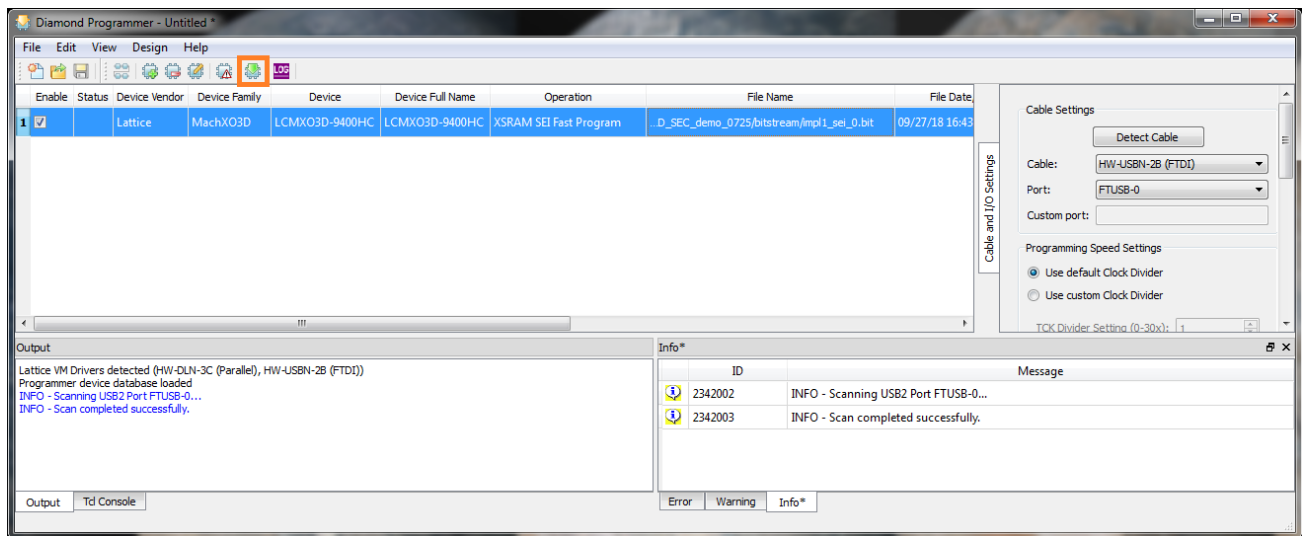

Figure 6.9. Start XSRAM SEI Fast Program Operation
- Click the **Program** button on the toolbar (Figure 6.9) to initiate background programming.